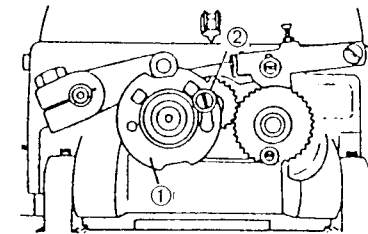
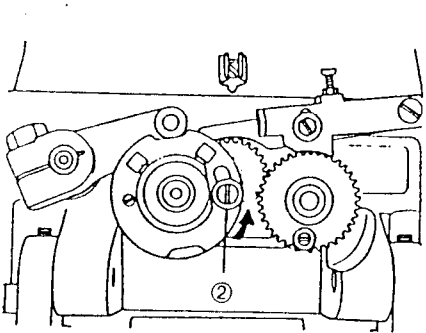

Fig. 17
Fig. 18
(i) 8-stitch selecting (Fig. 17 18)
The Figure 17 shows the 8-stitch selecting.
This 8-stitch selecting can be arranged by pulling the stop motion cam knob ② (Fig 18) toward the operator and if this is moved to the position shown by the direction of the arrow, and set at the position shown by ② Fig. 17, the stop motion cam ① will stop half revolution and becomes an 8-stitch selection.
(ii) 16-stitch selecting (Fig 18)
With the 8-stitch selected position, move the stop motion cam knob ②. The stop motion cam ①, at the position shown in Fig. 18 will rotate one complete revolution at one sewing cycle and becomes a 16-stitch selecting.